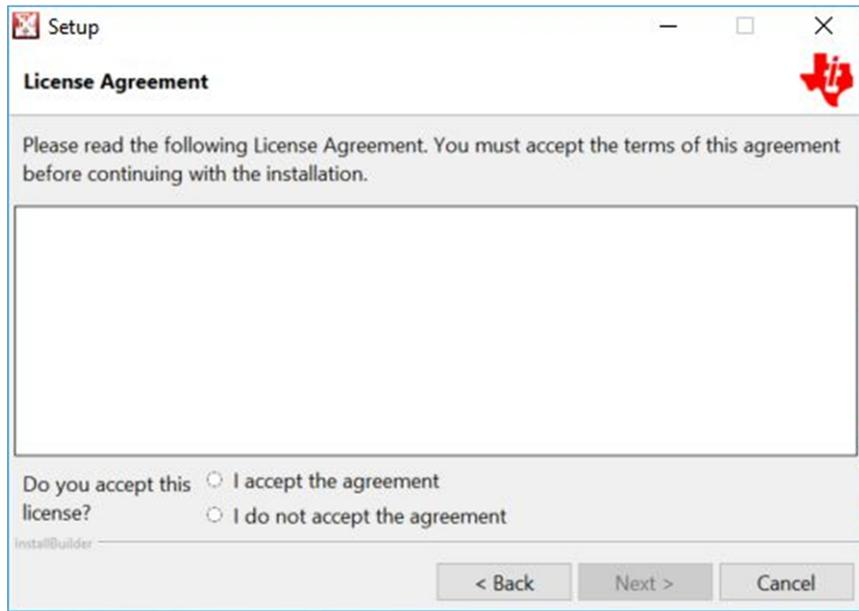

Figure 6. License Agreement
- Step 4. Review the license agreement (see Figure 6).